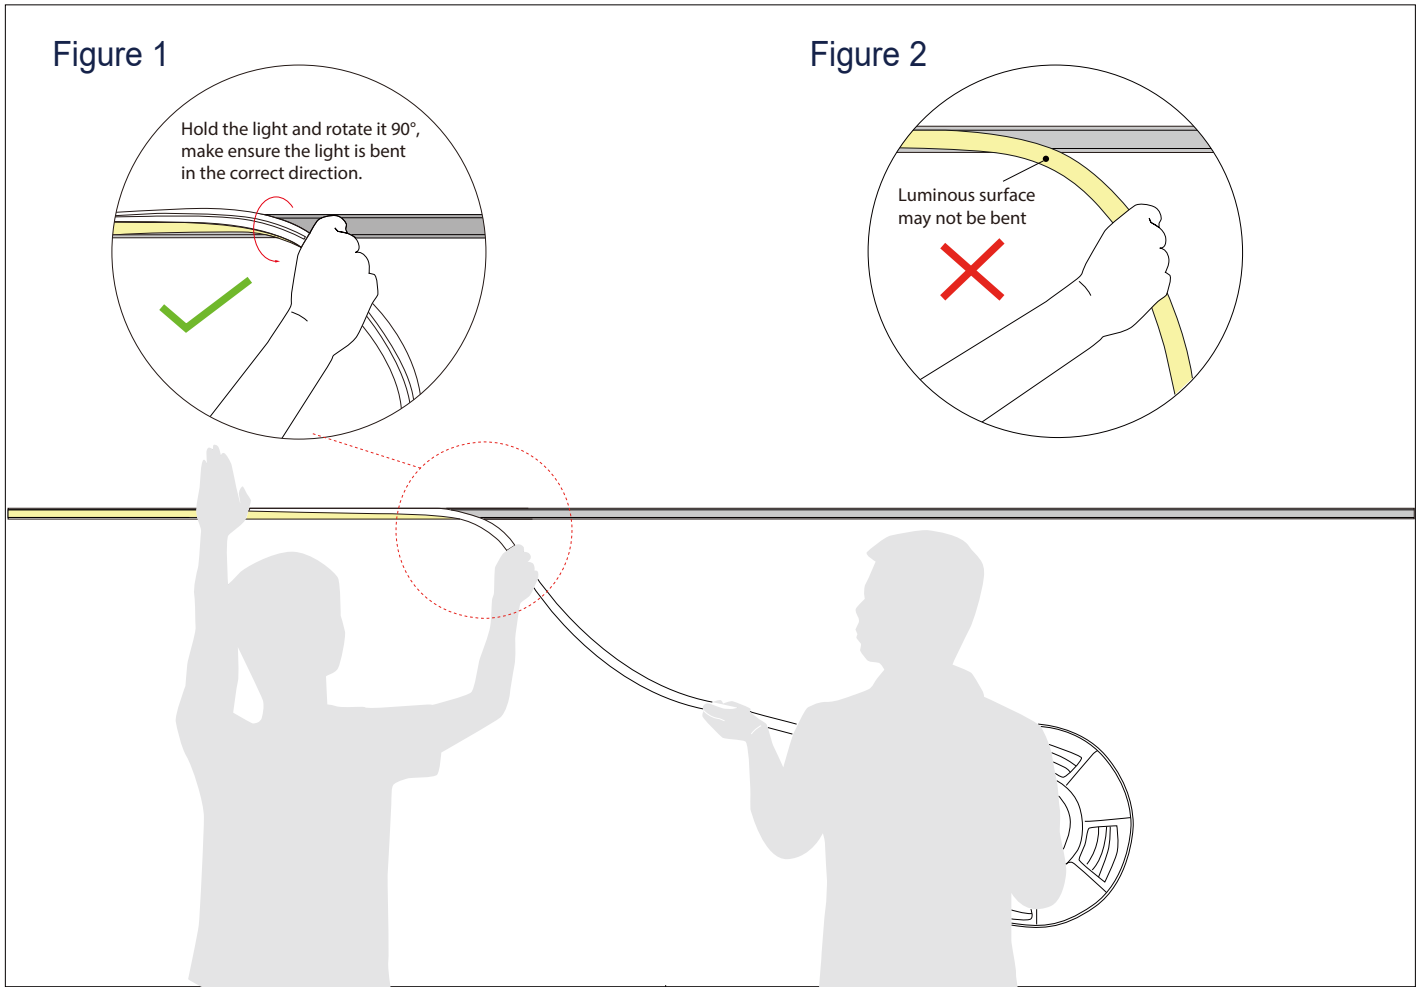

Figure 1
- Press the light with the palm of the left hand to slowly load it into the slot. Straighten the light with right hand, hold it and rotate it 90° to droop it in the direction of your hand. See Figure 1.